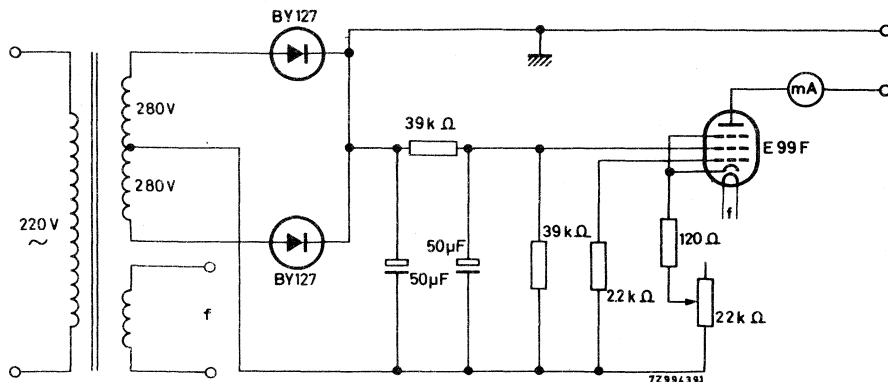

Fig. 9
For the diagram of the d.c. current source, see Fig. 9. The d.c. voltage (V) resulting from the contact resistance (R_C) and the d.c. current is measured between the pins 2 and 3 ($V = I \cdot R_C$).